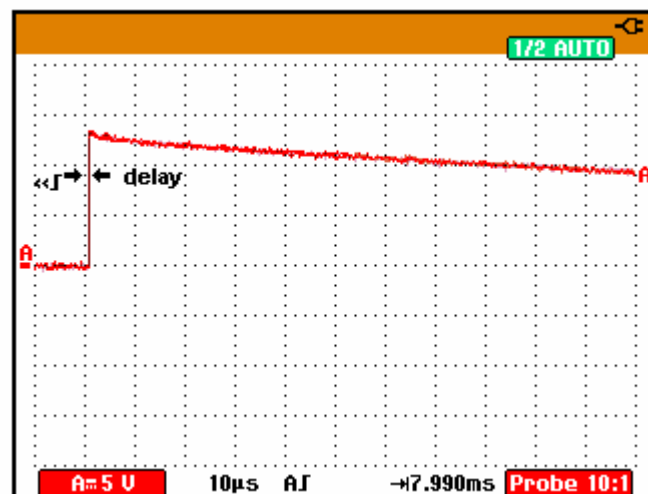

Figure 4-6. Time Base Verification
5. Examine the rising edge of the time marker pulse at the height of the trigger level indicator top. Verify that the rising edge is at the second grid line from the left. The allowed deviation is ±3 pixels, see Figure 4-6.
9. Examine the rising edge of the time marker pulse at the vertical height of the trigger level indicator top. Verify that the rising edge is at the second grid line from the left. The allowed deviation is ±3 pixels, see Figure 4-6.